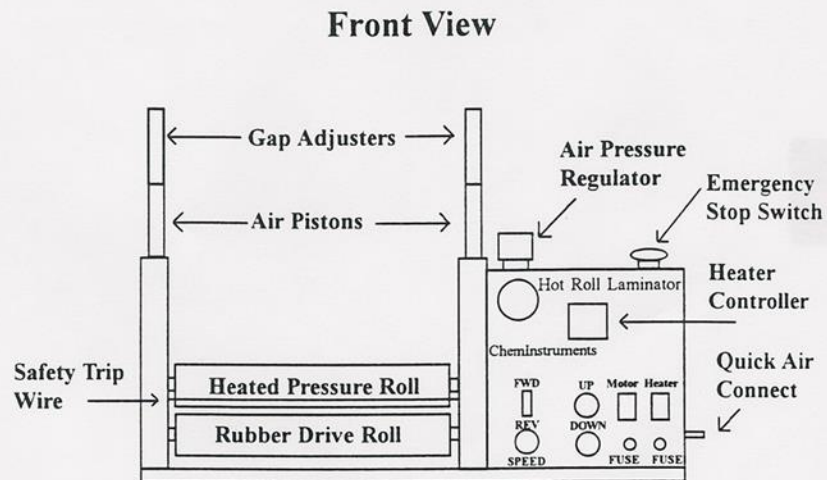
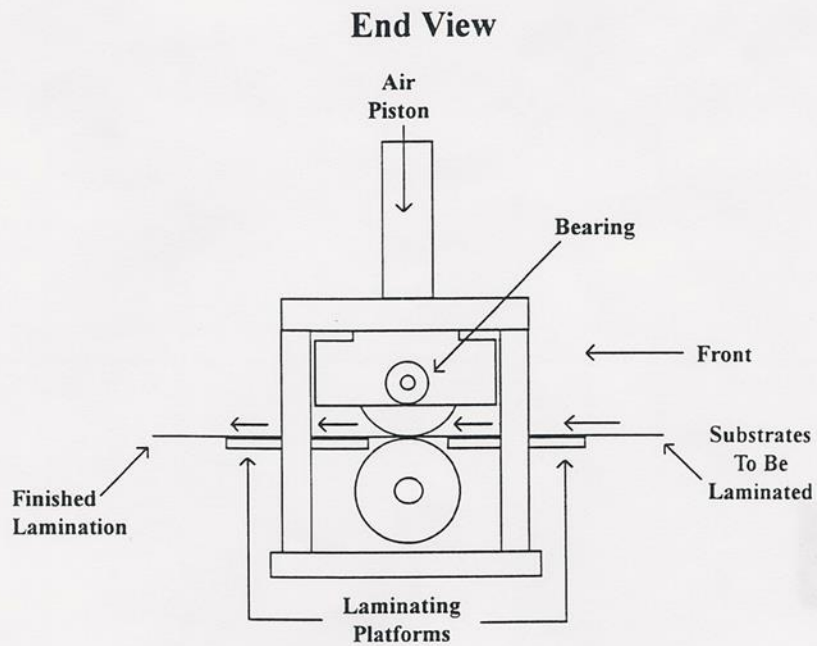

Figure 1
Figure 2
- With the optional gap adjusters create a gap by turning the middle portion of the air pistons in clockwise direction. The gap adjusters can be used to create a gap between the rollers when the machine is not in use. The gap adjusters can be used to assure the top pressure roll is not resting on the rubber covered silicone roll when not in use. This will prevent an indentation or flat spot from occurring on the rubber covered roller. (See Figure 1)
## **KEY COMPONENTS ( See Figure 1, Figure 2)**